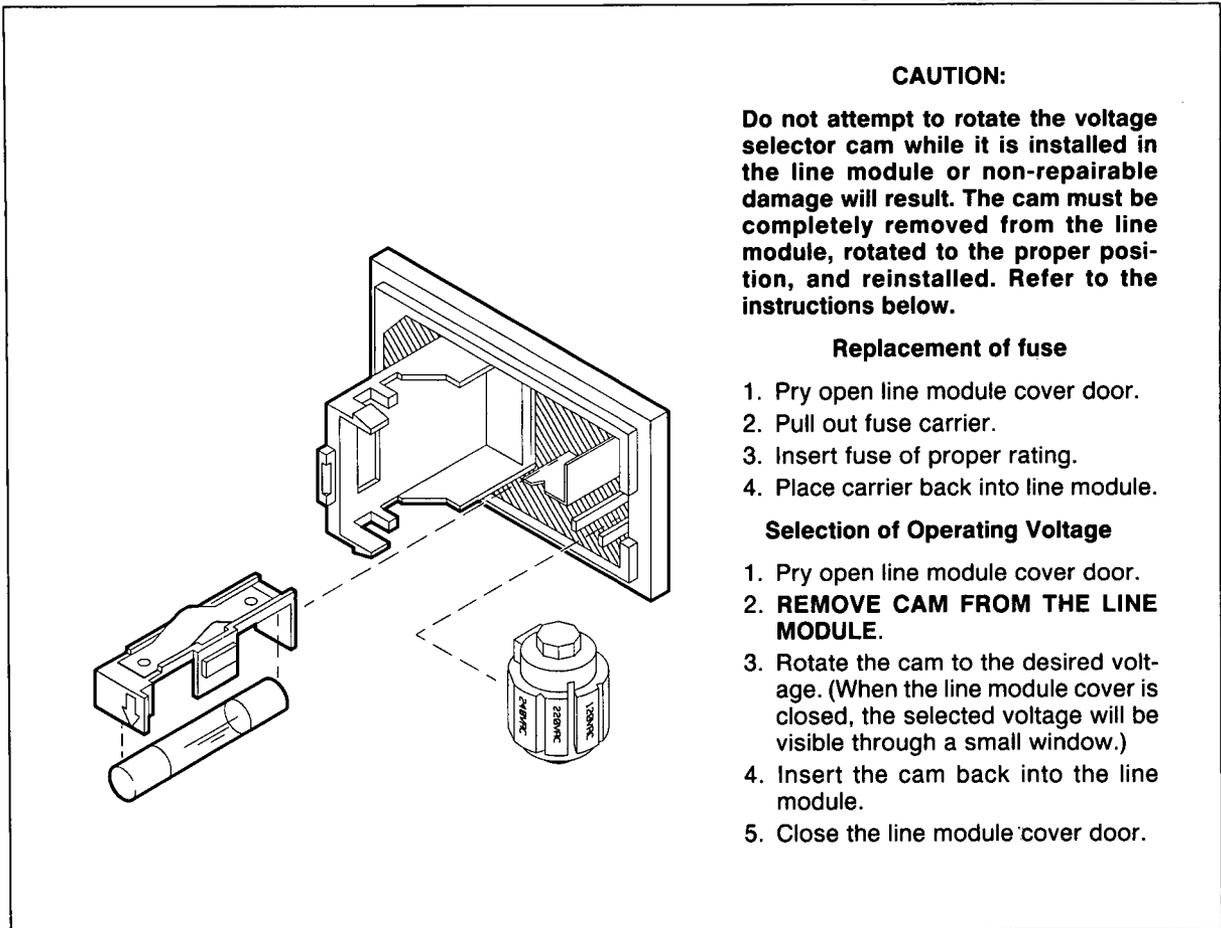

Figure I-1. Power Line Module
- Line voltage configuration (see Figure I-1).